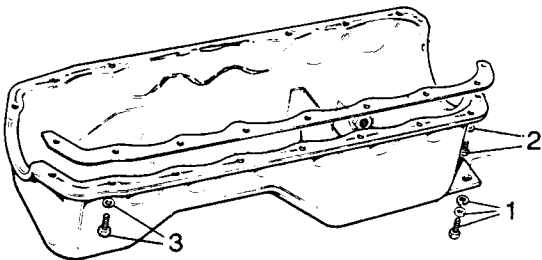

Fig B4.86
- (5) Refer to Fig B4.86. Remove the two bolts, plain and spring washers (1) securing the support plate to the adaptor plate.
- (6) Remove the two 4,76 mm UNC screws (2) and flat washers securing the sump, rear seal and gasket to the adaptor plate.
- (7) Remove the remaining 16 screws and spring washers (3) securing the sump to the cylinder block.
- (8) Lower and remove the sump.
- (3) Offer up the sump to the crankcase.
- (4) Fig B4.86 still applies. Fit the 16 screws and spring washers (3) and torque to 10 to 13 N.m.
- (5) Replace the two bolts, plain and spring washers (1) securing the support plate to the adaptor plate.
- (6) Refit the two 4,76 mm UNC screws and flat washers (2) securing the sump, rear seal and gasket to the adaptor plate.
- (7) Replace the engine cross mounting member.
- (8) Lower the vehicle to the ground.
- (9) Replace the dipstick and fill with the correct grade of oil.